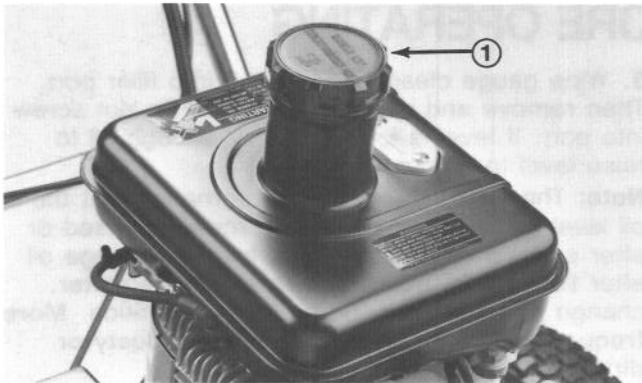

Figure 9
1. Clean around fuel tank cap and remove cap from tank (Fig. 9). Using unleaded gasoline, fill fuel tank no higher than to bottom of filter screen. **DO NOT OVER FILL.**